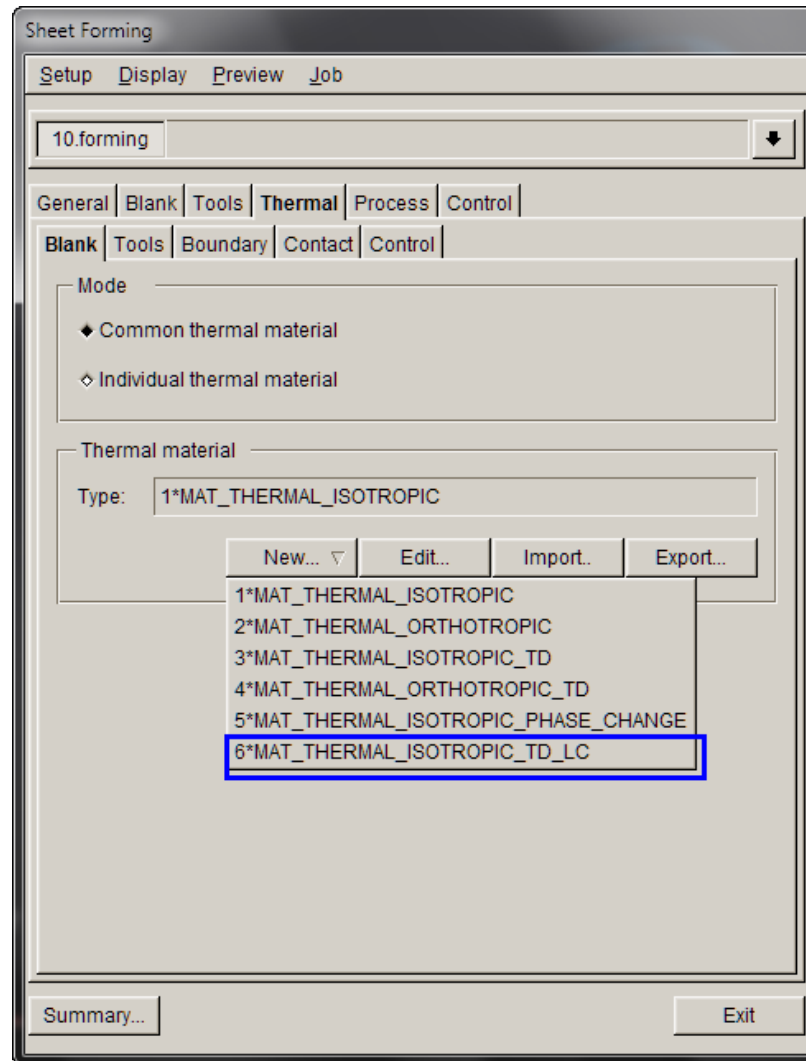

Figure 36
2. Define the blank thermal material and select ***MAT_THERMAL_ISOTROPIC_TD_LC**. (Figure 36).